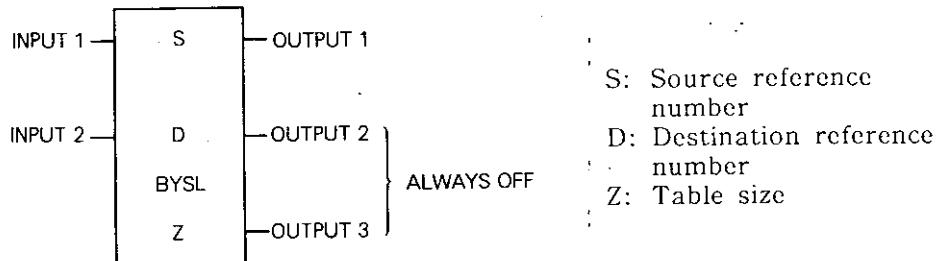

Fig. 5.78 BADD General Form
- Fig. 5.78 shows the form of block addition.